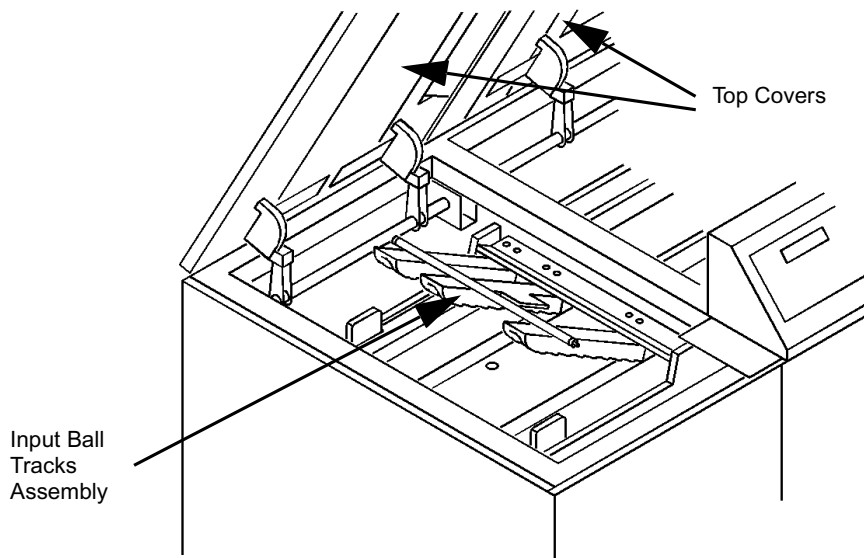

Figure 3-1: The Top Covers and Input Ball Tracks
- 2 Open both Top Covers on the Punch, as shown in Figure 3-1.
- 3 Open (lift) the Input Ball Tracks, as shown in Figure 3-1, and clear any paper that may be jammed in that area. Also, check the printer Finisher and output tray for any paper jams.